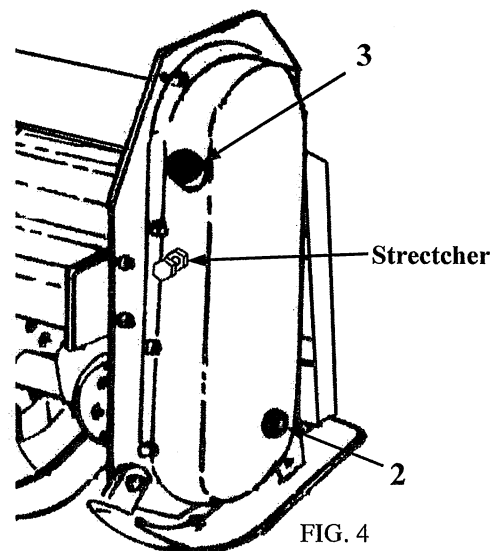

FIG. 4
- Check oil level in the cover (chain transmission) by unscrewing the oil level plug (2 in fig. 4). If needed to add oil, unscrew the filler plug (3 in fig. 4) and fill in the cover until oil starts running out of the level hole.